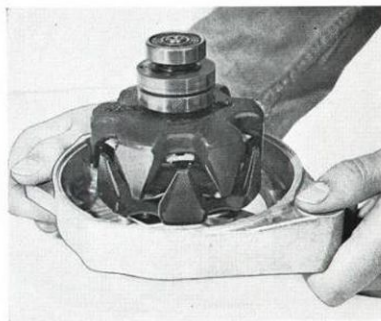

Fig. 3-32. Removing drive end shield
6. Release the three screws holding the support plate of the drive end bearing. Release the bearing by knocking the end of the shaft against a piece of wood, see Fig. 3-32.